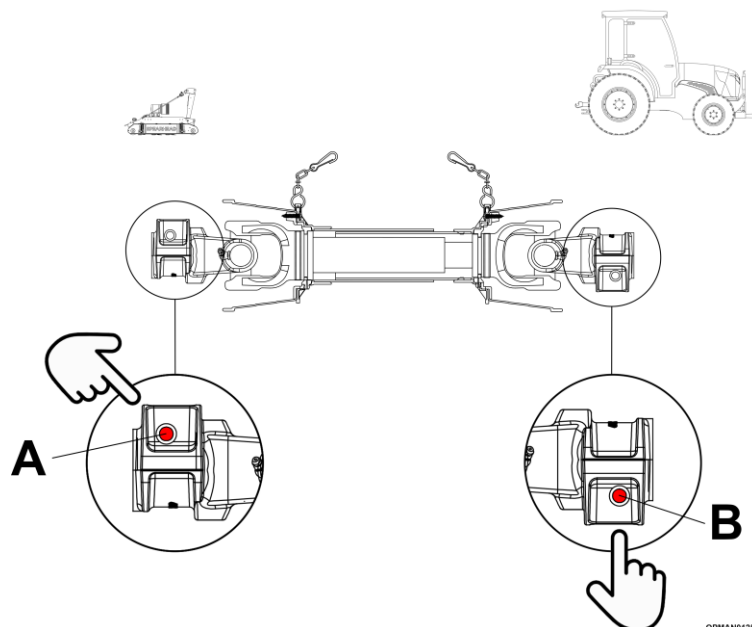

Figure 4.8 – Rollicut Input Driveshaft Fitting & Removal
- 4.4.1.1 Press the input PTO driveshaft spring button and align the grooves and splines with those of the PTO input driveshaft of the gearbox; see Figure 4.8 (A).
- 4.4.1.2 Push the driveline yoke onto the machine input PTO driveshaft, release the spring button and position the yoke of the input PTO driveshaft until the spring button balls are seated onto the machines input PTO driveshaft; see Figure 4.8 (A).
- 4.4.1.4 Press the input PTO driveshaft spring button and align the grooves and splines with those of the PTO output driveshaft of the tractor; see Figure 4.8 (B).
- 4.4.1.5 Push the driveline yoke onto the tractor output PTO driveshaft, release the spring button and position the yoke of the input PTO driveshaft until the spring button balls are seated onto the tractors output PTO shaft; see Figure 4.8 (B).
- 4.4.1.7 Press the tractor end input driveshaft spring button and pull back the shaft off the output splined shaft of the tractor; see Figure 4.8 (B).
- 4.4.1.8 To remove the shaft, press the machine end input driveshaft spring button and pull back the shaft off the input splined shaft of the machine gearbox; see Figure 4.8 (A).